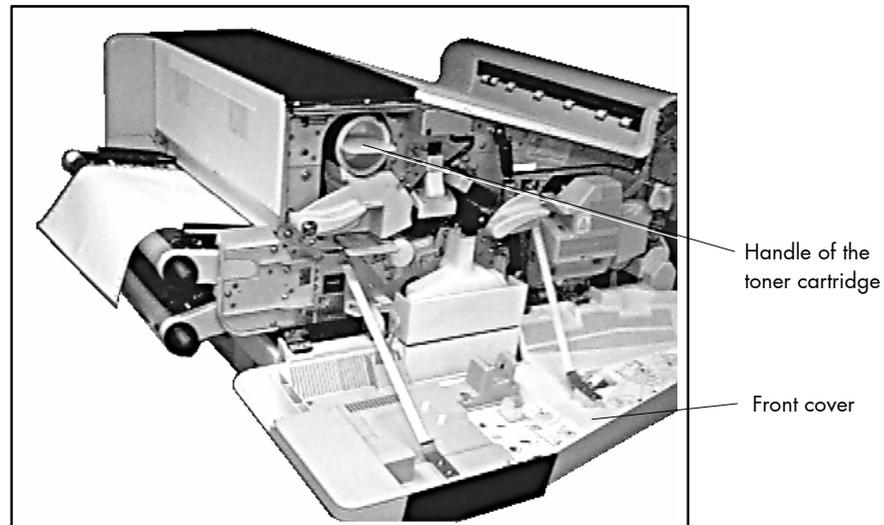

Fig. 7.2.a Printer's front cover open
4. Use the handle (see figure 7.2.a) to rotate the old toner cartridge 180° clockwise until it touches.